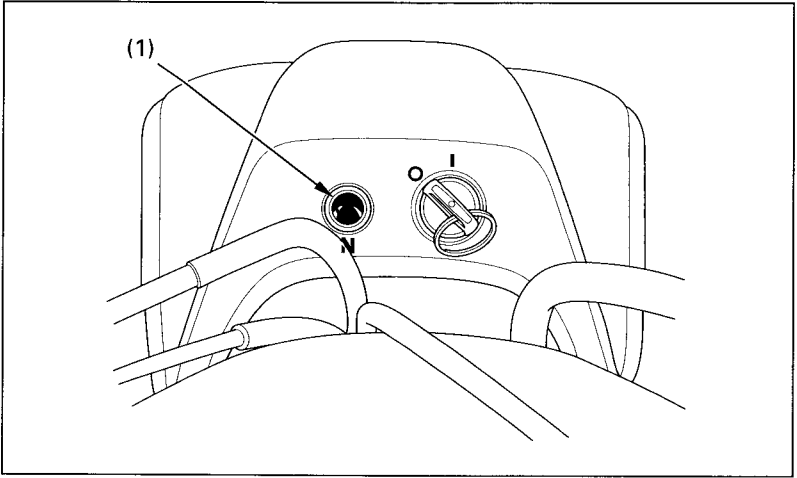

Fig. 2-11
The neutral indicator lamp (1) (Fig. 2-11) is located on the headlight case.